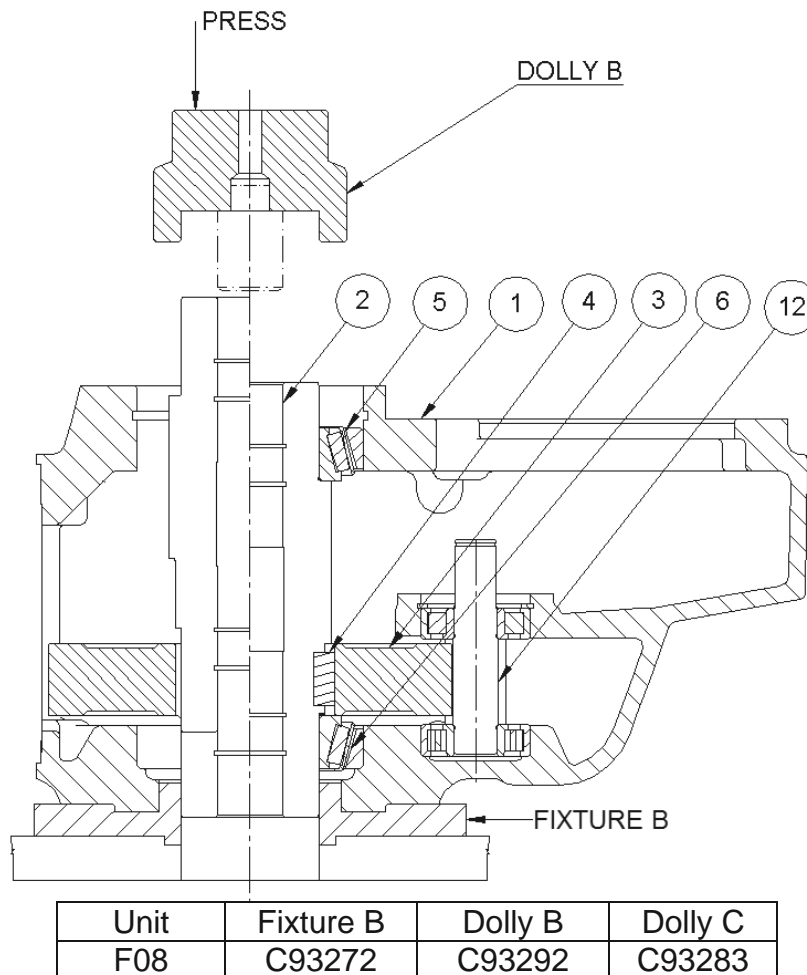

Figure 8.5
- 8.3.6. Press the hollow shaft (2) into the gear wheel (3) and lower bearing (6) using the tooling shown in figure 8.5 (Dolly B).
- 8.3.8. Press upper bearing inner ring (5) into position using the tooling shown in figure 8.5 (Dolly C)